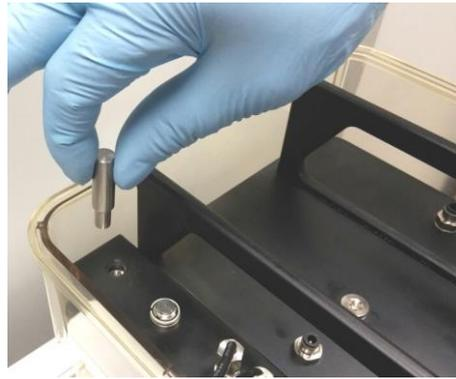

Figure 41: Placing the weight in the transducer
- Place the 20g reference weight in the top part of the transducer (Figure 41).